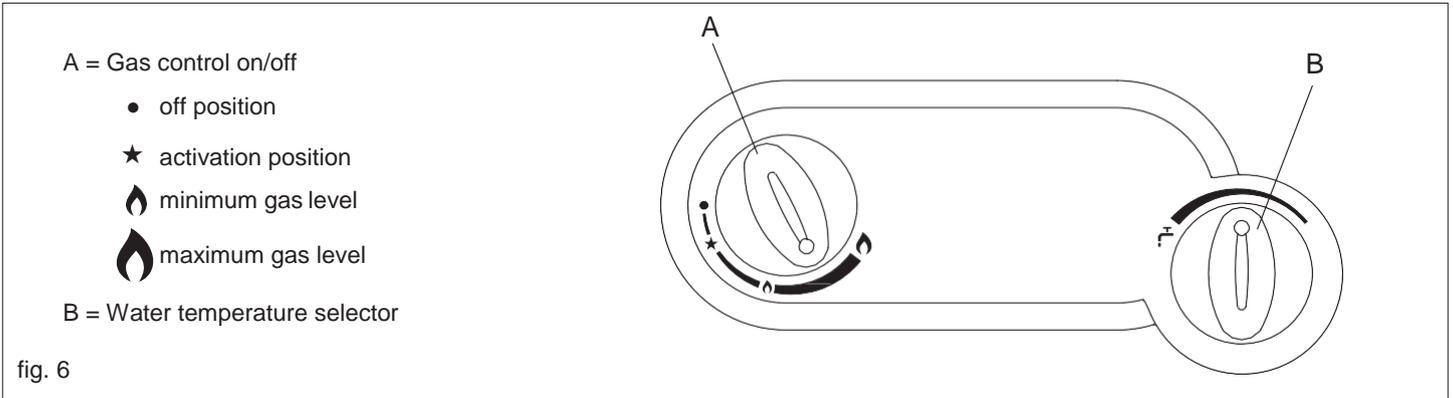

fig. 6
- A gas control knob - "A" in Fig 6
- A water temperature control knob – "B" in fig 6
The minimum gas level in fig. 6 will provide approximately 50% of the available power. Turning the gas control knob counter-clockwise will increase the power level between 50% and 100%. This function may be useful to vary the temperature of the water supplied.
- Press the piezo electric button that is located under the water heater on the right-hand side until the spark ignites the pilot flame. The flame can be seen through the viewing window on the front of the heater. When it ignites, keep the gas control knob ("A" in fig 6), pressed for 20-30 seconds. If the pilot does not stay lit when the knob is released, repeat the procedure